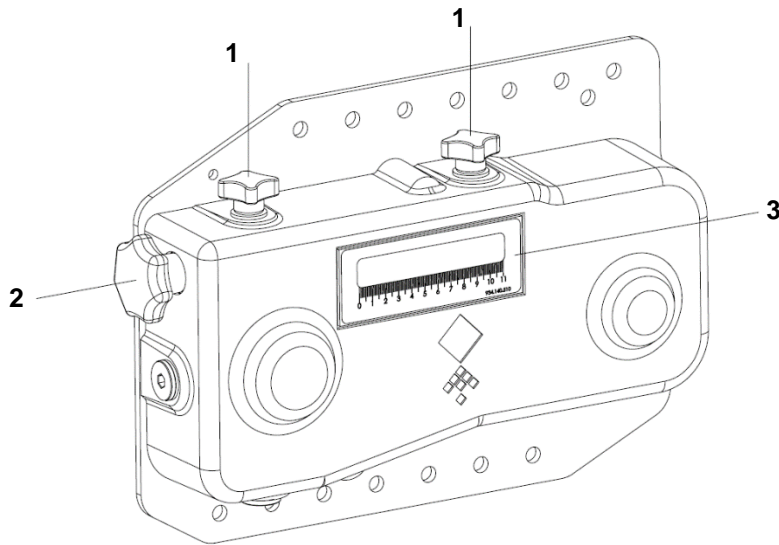

Figure 9
1. Loosen the knop (1) (Figure 9).
2. Turn the knob (2) to change the setting. The setting can be read on the label (3).